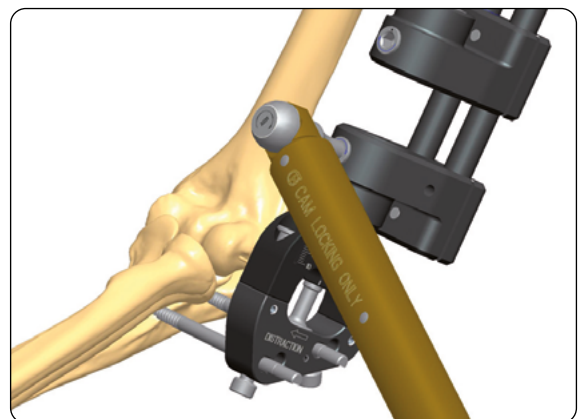

Fig. 12
11) Tighten the screw into the clamp with the 5mm Allen Wrench (30017) and tighten the cams with the 6mm Torque Wrench (10025) **(Fig. 12)**.